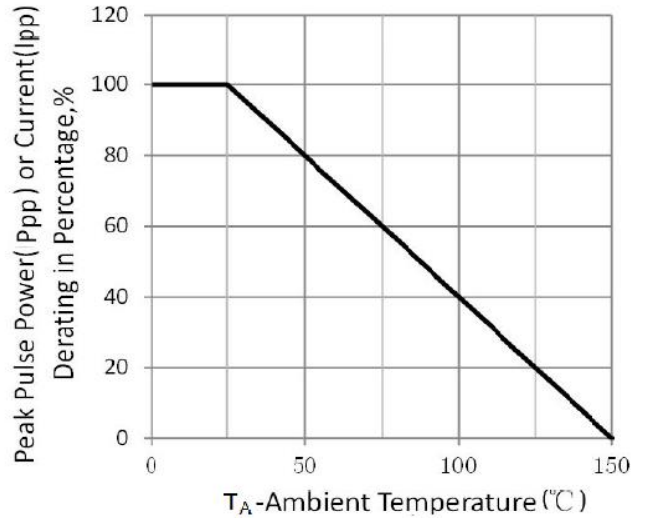
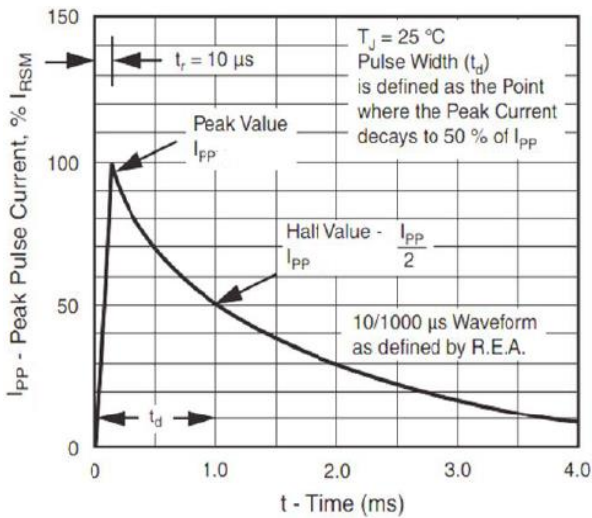

Figure 2. Pulse Power vs ambient temperature
Figure 3. Pulse Waveform
1. Non-repetitive current pulse per Fig.3 and de-rated above TA=25°C per Fig.2.